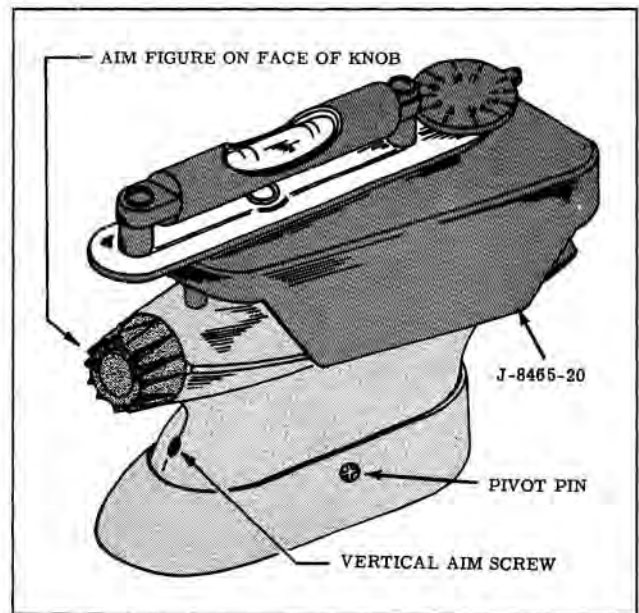

Fig. 12-44 Level Installation
4. Set the Level J-8465-20 on top of phototube unit as shown in Fig. 12-44.